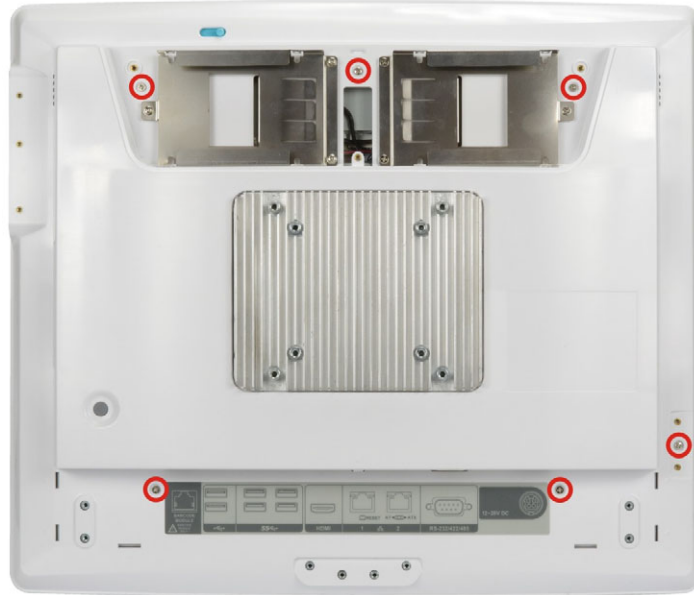

Figure 6-2: Back Cover Retention Screws
Step 3: Remove the six retention screws from the back cover (**Figure 6-2**).